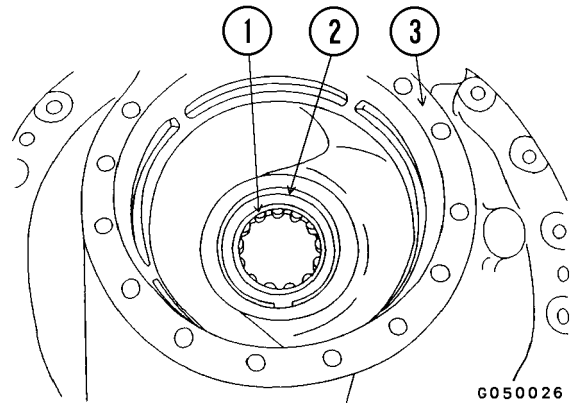

FIGURE 5-27. DIFFERENTIAL BEARING
14. Remove snap ring (2, Figure 5-27), then remove bearing (1) from differential case (3).
2. Using a push tool, press bearing (1, Figure 5-27) in differential case (3), and install snap ring (2).